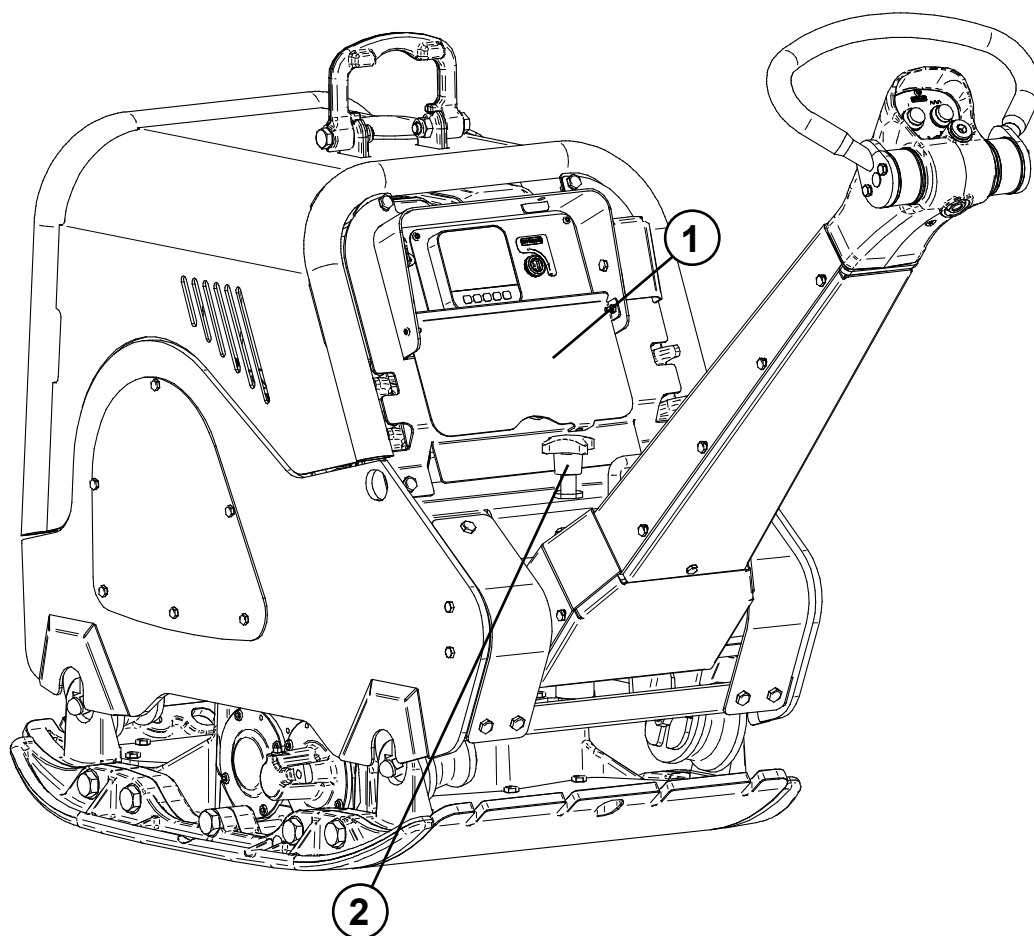

Figure 4
- ▶ Adjust the desired work height of the guide bar with the set screw (position 2, figure 4).
- ▶ Open the vandalism flap (position 1, figure 4).